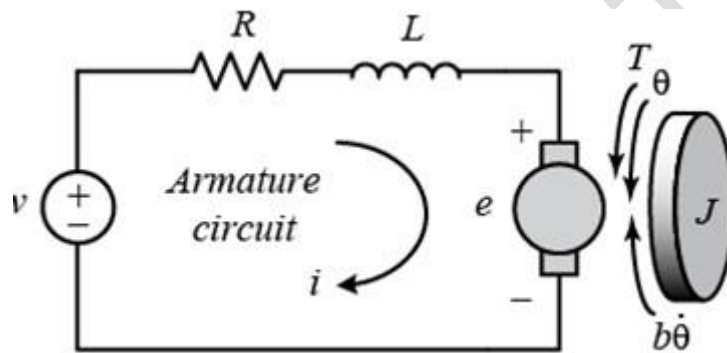

Figure Q1 Separately excited DC Motor
A separately excited DC motor is shown schematically in **Figure Q1**, representing the interaction between its electrical and mechanical components. The system operates such that the armature current (i) interacts with the magnetic field to produce rotational motion. The voltage source (V) supplies electrical energy to the armature circuit, while the armature resistance (R) and inductance (L) represent the electrical characteristics of the winding. The back electromotive force (e) is generated due to the motor's rotation and acts in opposition to the applied voltage. The developed torque (T) drives the motor shaft, whose motion is characterised by angular displacement (θ), moment of inertia (J), and damping coefficient (b), representing mechanical resistance due to friction and viscous effects.